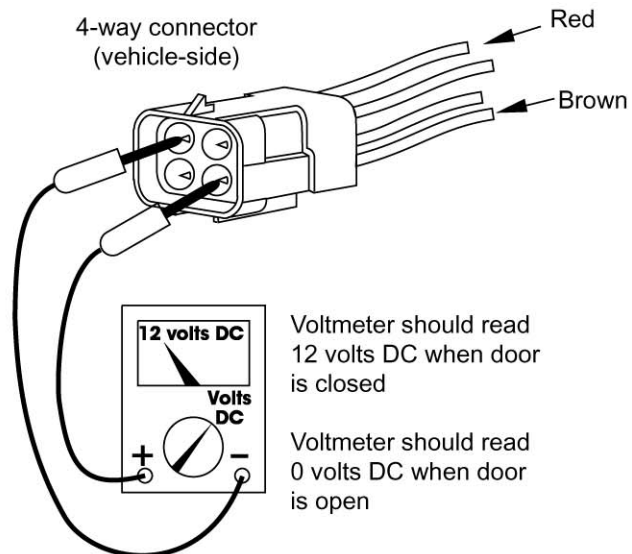

FIGURE 9: Check ignition override
4. To check the ignition override system, connect a voltmeter between the yellow wire from the 4-way connector (vehicle half) and the ground terminal on the end of the control unit's green ground wire (see **Figure 9**.) The voltage reading should be approximately 12 volts DC when ignition is on and zero (0) volts when ignition is off.